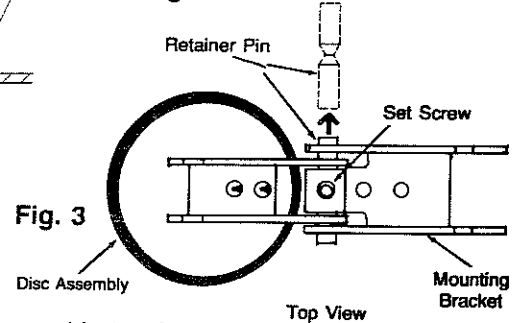

Fig. 3
4. Reach in through the access opening and remove the entire clapper assembly, opening the clapper assembly and laying it flat on a table. (Refer to Fig. 3)
- Important:** Each check repair kit fits (1) one check module.